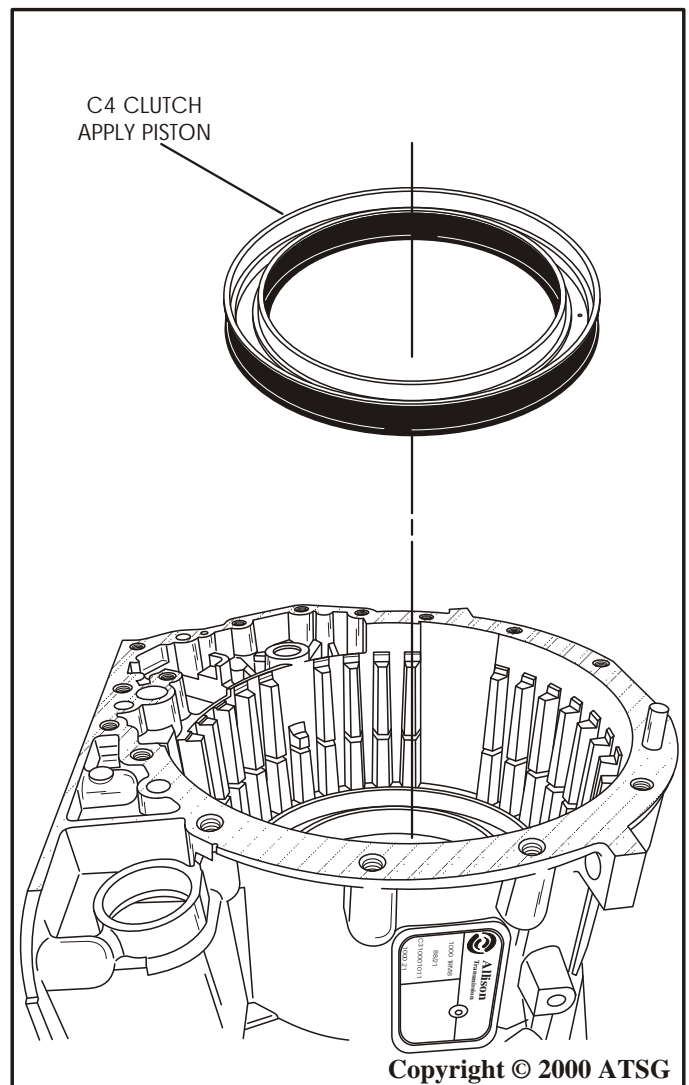

Figure 149
3. Inspect the C4 clutch molded apply piston and replace as necessary (See Figure 149).
4. Lubricate C4 clutch piston with a small amount of TransJel®, and install into the case bore, as shown in Figure 149.